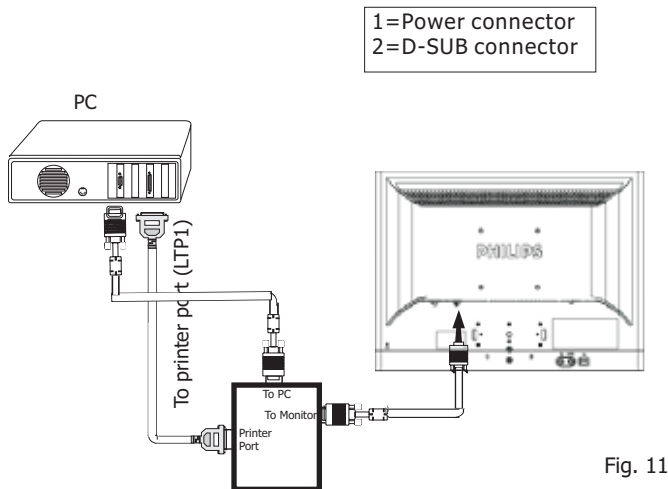

Fig. 11
Step 1: After initialize alignment box, connecting all cables and box as shown in Fig. 11
1. Click  icon as shown in Fig. 11 from the tool bar to bring up the Channels "Configuration Setup" windows as shown in Fig. 12.